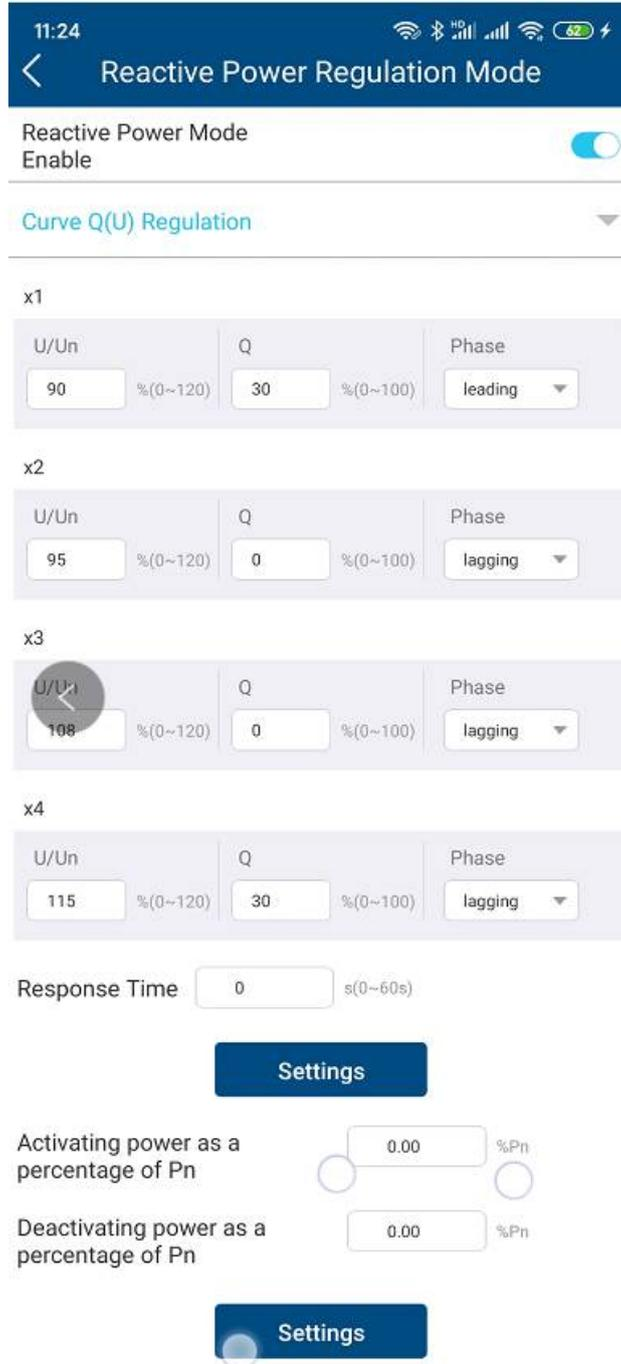

Figure 2-5-31 Curve Q(U) Regulation
**Curve Q(U) Regulation:**
Choose the Curve Q(U) Regulation, as shown in figure 2-5-31. The parameters of the reactive power – voltage curve can be set according to the requirement of the local network company.